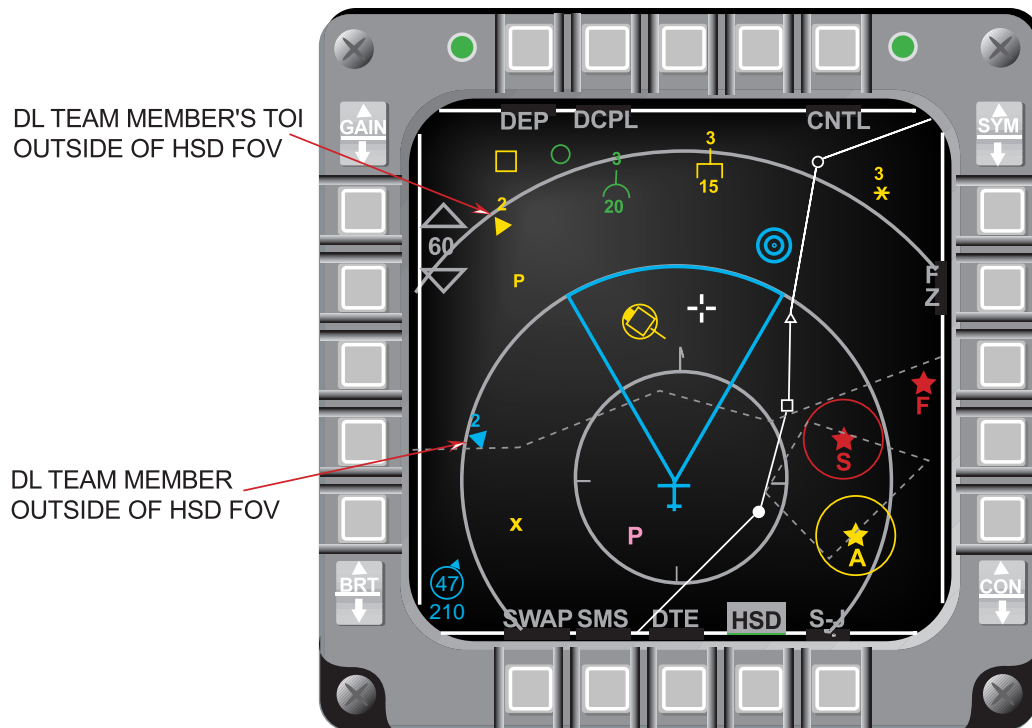

Figure 1-2 Data Linked Targets Outside HSD FOV
When Data Link (DL) team members fall outside the Horizontal Situation Display (HSD) Field Of View (FOV), they are represented by a cyan filled triangle at azimuth on the outer range ring of the HSD (Figure 1-2). The team member's number is displayed above the triangle. If the team member has a Target Of Interest (TOI) outside the HSD FOV, it is displayed as a filled yellow triangle at azimuth on the outer range ring with the team member number above it to distinguish which team member has bugged that target.